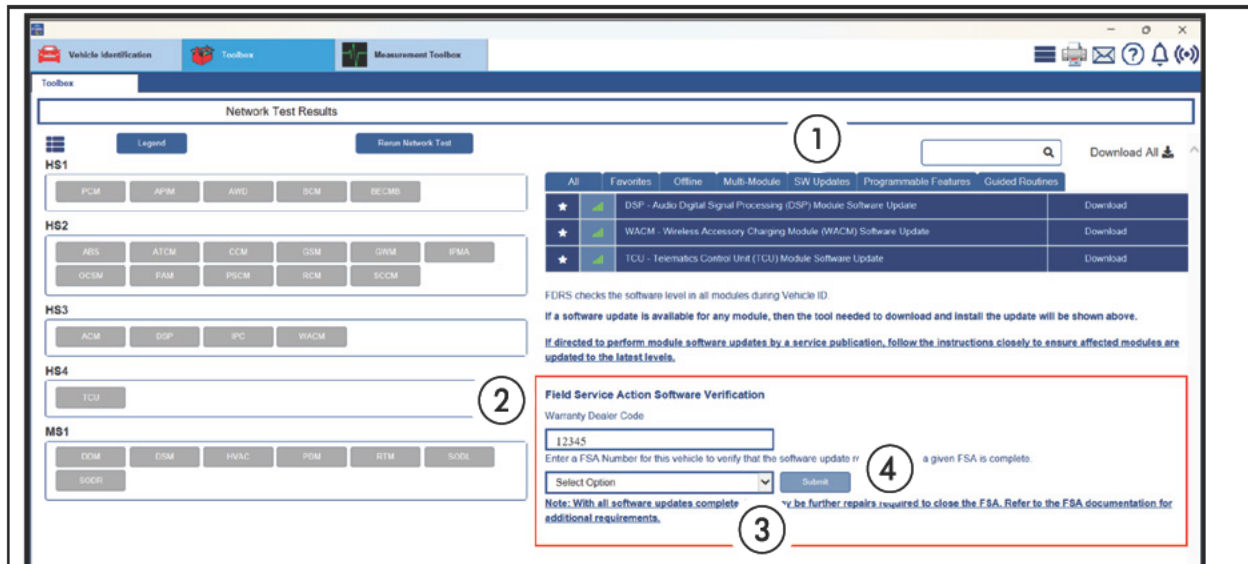

FIGURE 3
12. Select the **SW Updates** tab (1). See Figure 3.
13. **Warranty Dealer Code** (2) - Change the displayed PA code as necessary. See Figure 3.
14. Select the **FSA** (3) from the drop-down menu. See Figure 3.
15. Select **Submit** (4). See Figure 3.